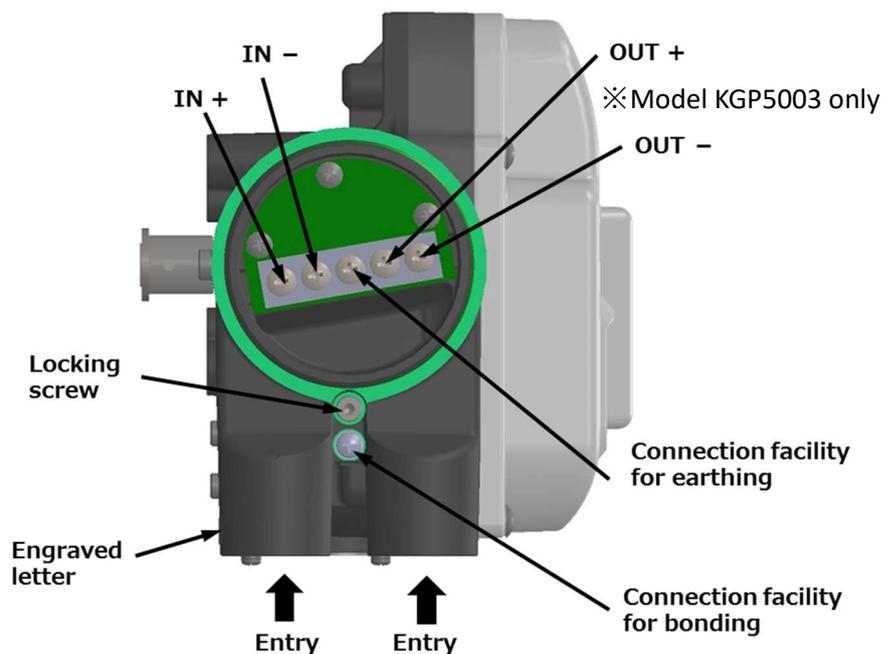

Figure 2.6a Entries and Connection facilities
The figure2.6a below shows the layout of the entries for electrical connections and terminals. There are a few different types of thread for entries.
5. As illustrated in figure 2.6a, two connection facilities for earthing and bonding conductors are available. The two connection facilities are equipotential. Make wiring connections according to local electrical codes which apply to the application.